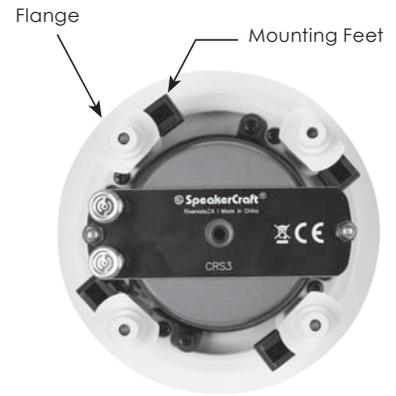

Figure 2
3. Make sure the mounting feet are turned inward to clear the opening, and insert the speaker into the ceiling. Position the speaker into the hole. **Note:** The flange of the speaker is designed to flex and conform to any small imperfections in the ceiling surface. Tighten the 4 screws on the front of the baffle only enough to make the flange become snug against the ceiling. As you tighten the screws, the feet will automatically flip into an outward position (**See Figure 2**), clamping the drywall between the feet and the flange.